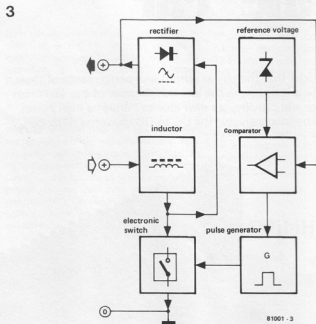

Figure 3. DC to DC conversion where the output voltage is compared to a reference voltage to determine the pulse repetition of the chopper.
3. The third method constitutes a compromise between the two with respect to the value of inductance required. Here, the DC input voltage is again chopped before being rectified and smoothed, but this time the output level is monitored and compared with a reference level. In turn, the comparator controls the switching speed of the chopper so that a steady output voltage is maintained. The principle of the above is shown in figure 3. By using this method the circuit requires a relatively small coil with few turns thereby making the device more compact than if a full sized transformer were used.
The complete diagram of the DC to DC converter is given in figure 4. The control circuit consists of a reference voltage source (R4, D1 and C3), a comparator (opamp IC1) and a 555 timer (IC2) connected as an astable multi-vibrator (or, more accurately in this instance, as a pulse generator). Transistors T3...T5 (connected in parallel) form the electronic switch shown in the block diagram (figure 3).